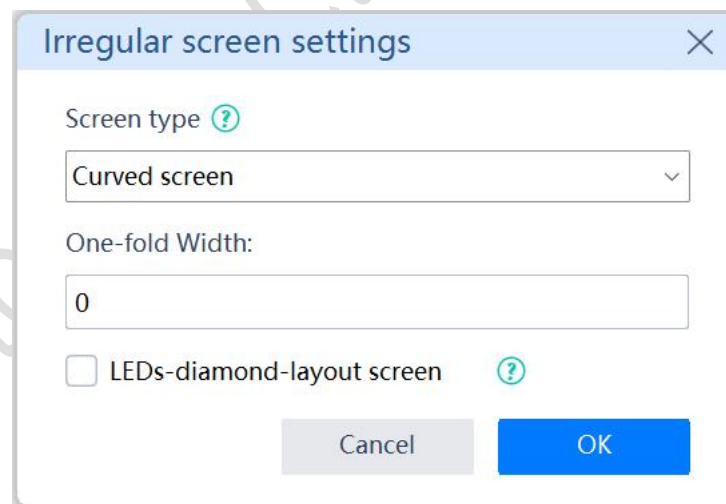

Fig.4-17 Curved screen settings
- ◆ **Curved screen:** Select this checkbox when the screen is a curved one assembled by modules with the same LEDs in row and in column. You should also enter a value in the **One-fold Width** input box for a curved screen according to the real situation. See Figure 4-17.